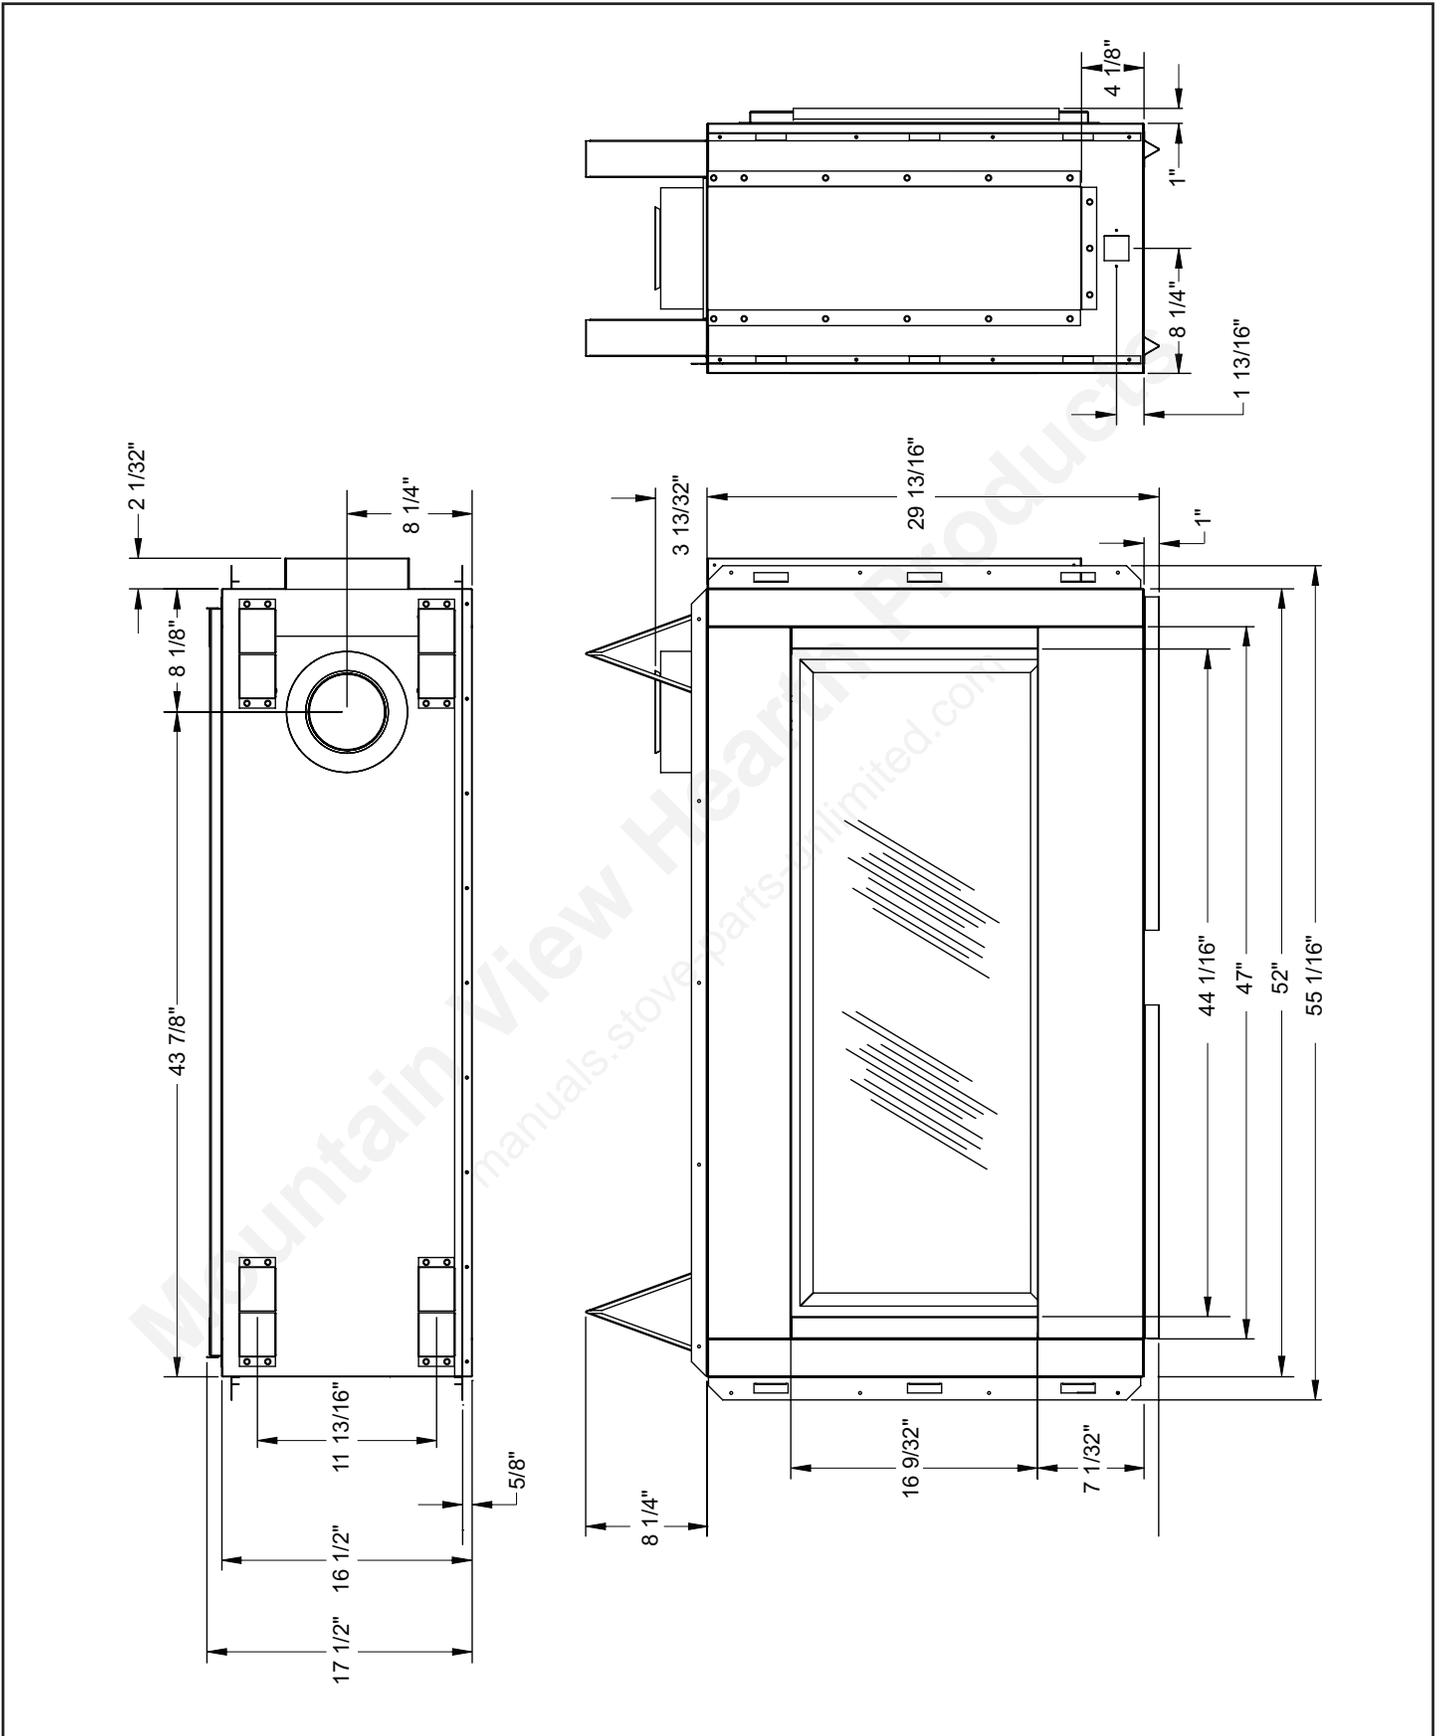

Figure 6 - DRL4543 Fireplace Series Dimensions
- If your fireplace is to be installed directly on carpeting, vinyl tile or any combustible material other than wood, it must be installed on a metal or wood panel extending the full width and depth of the fireplace (see Figure 6, page 9).